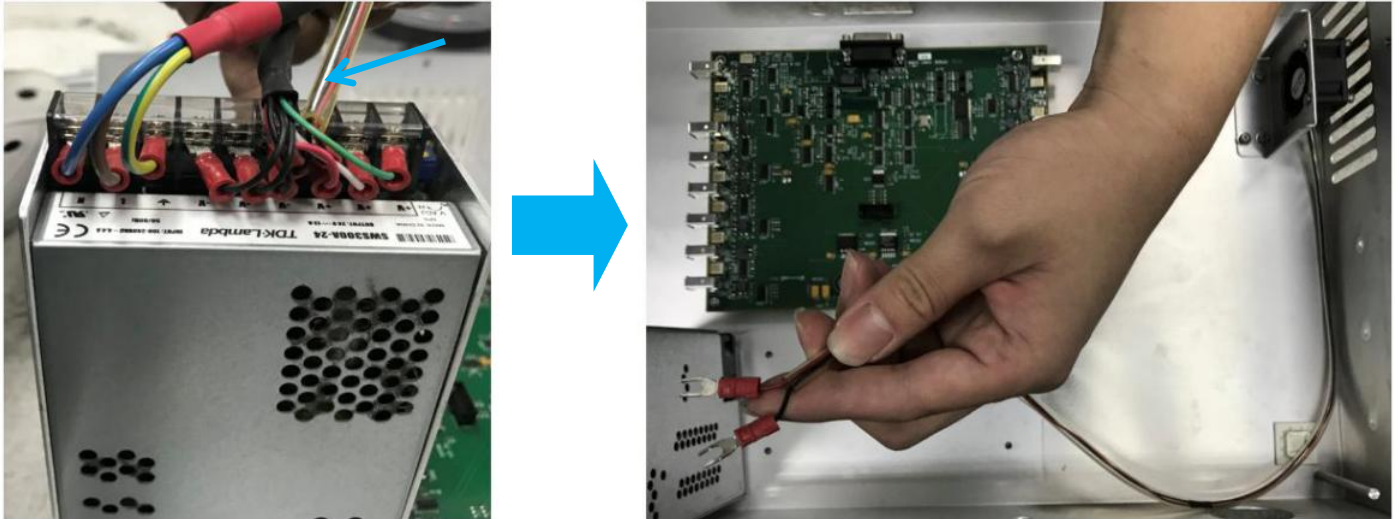

Figure 13 Ventilation Fan Power Cable Removal
15. Remove Ventilation Fan Power Cable from Trigger Board Power Supply as below Figure 13.